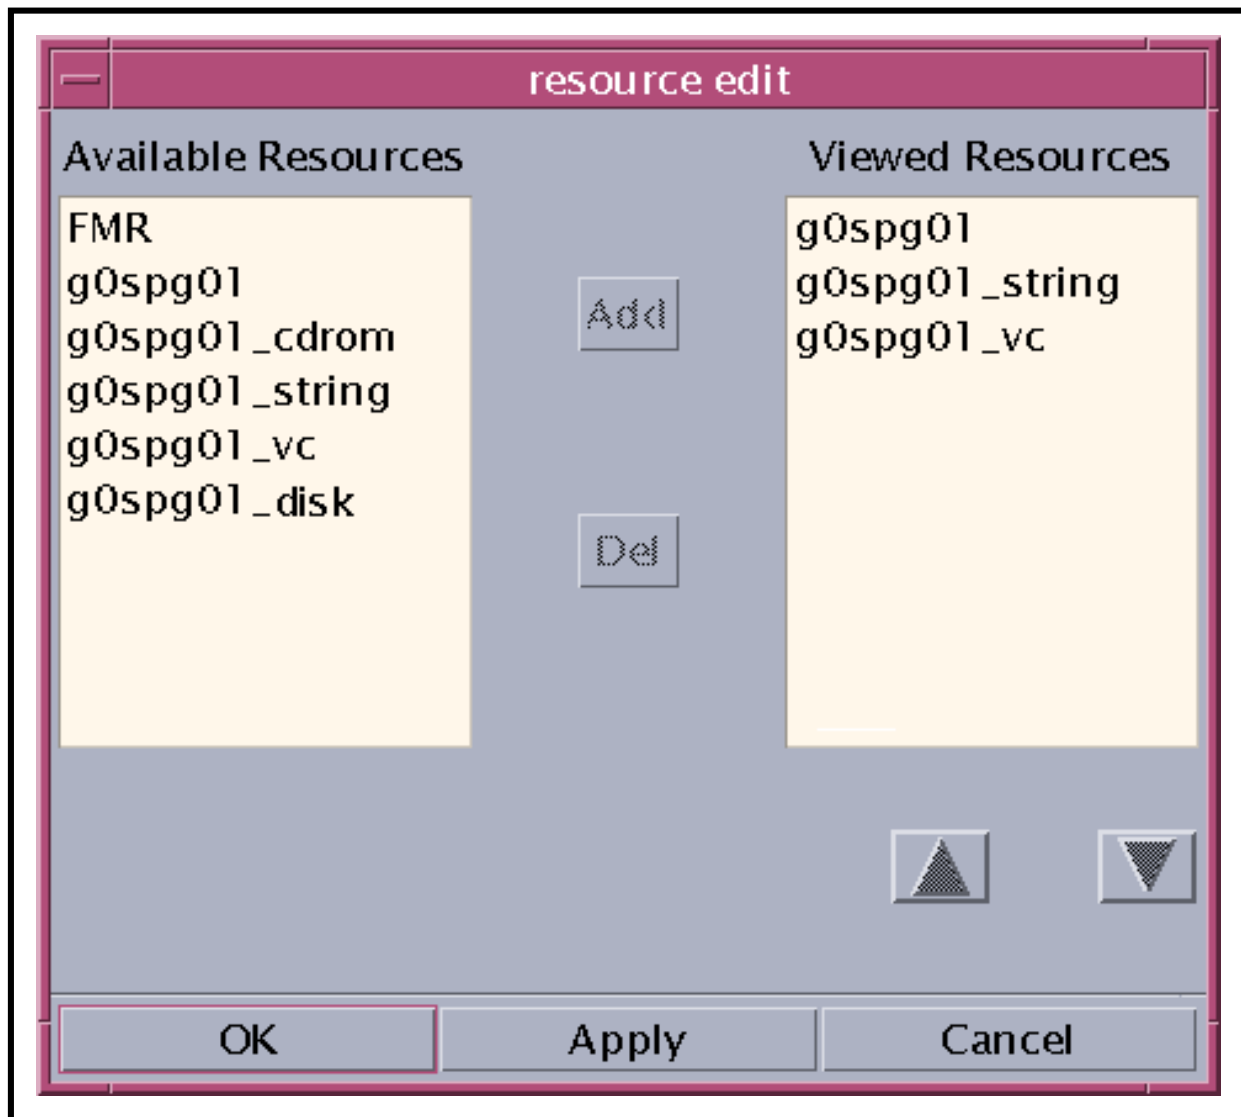

Figure 23. Resource Edit Window
- The **Resource edit** window (Figure 23) is displayed.